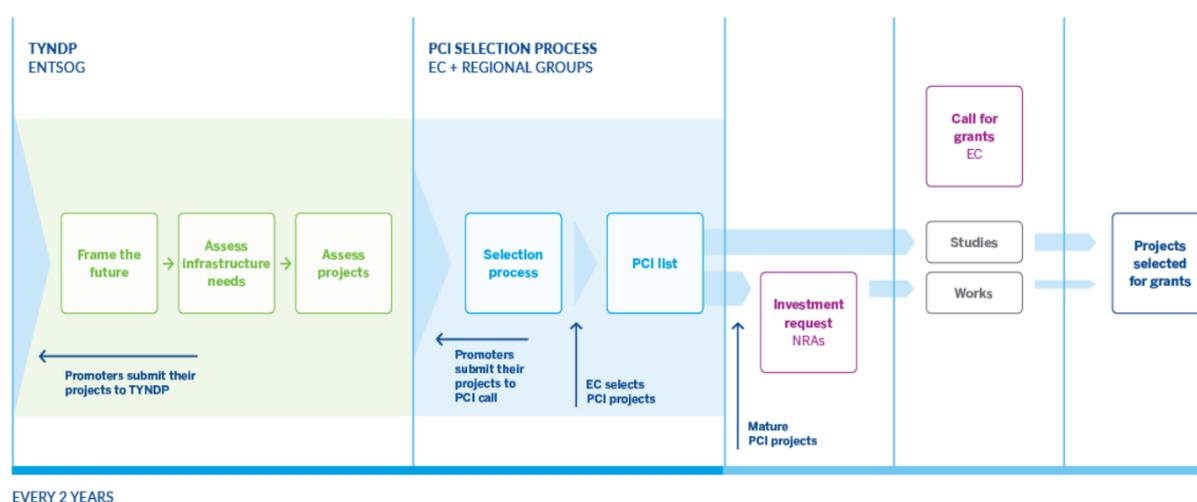

Figure 1: TYNDP and PCI/PMI process overview
Based on Regulation (EU) 869/2022 Annex III.2, from 1 January 2024, and subsequently for the following PCI and PMI selection processes, hydrogen projects (H2T, H2S, H2L and H2M subcategories) will need to be part of the latest ENTSOG Ten-Year-Network-Development Plan (TYNDP), as represented in the Figure 1 below.